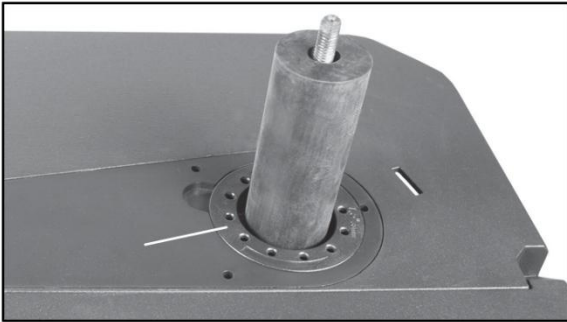
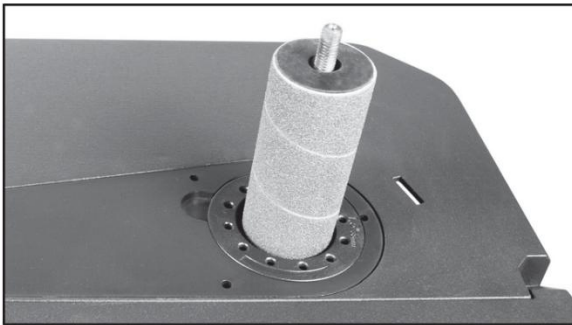

Figure 2: Installing the Rubber drum.
Figure 3: Installing the abrasive Sleeve.
- 3- Install the appropriate size table insert for the drum size to be used Figure 2.
- 4- Slide the desired rubber drum over the shaft Figure 2. Then install the sanding sleeve onto the drum Figure 3.